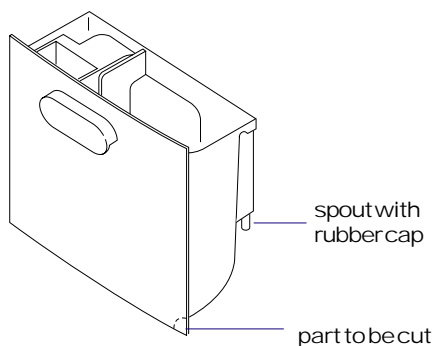

Fig. 1
The condensation can be drained directly into the tank located inside the appliance (fig.1).
- 1) On the tank there is a thin part. This can be easily cut to allow the hose to pass through (fig. 1).